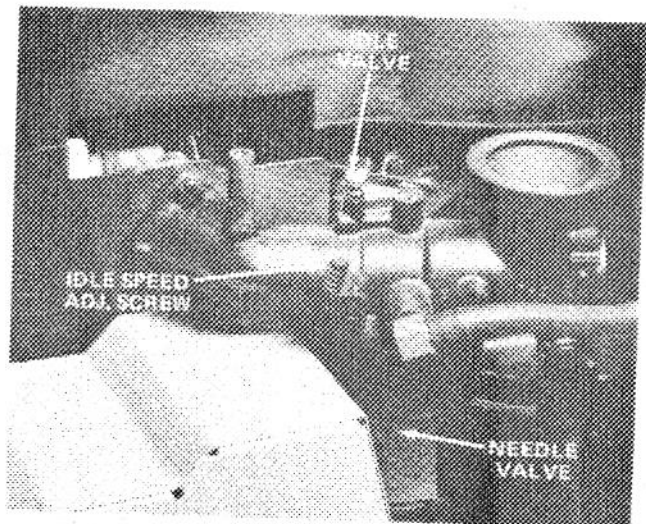

Figure 28
1. Needle Valve (Fig. 28) — Close valve by gently rotating it clockwise.
2. Rotate — open — the needle valve 2 turns counterclockwise (Fig. 28).
4. Rotate needle valve (Fig. 28) clockwise, 1/8 turn at a time, until engine starts to lose speed. Let engine react to each 1/8 turn setting.
5. Rotate needle valve (Fig. 28) counterclockwise — out — 1/8 turn at a time, until engine first runs rough. Let engine react to each 1/8 turn setting.
6. Rotate needle valve (Fig. 28) clockwise — in — very slowly until engine starts to run smoothly. This setting, under no load, may be slightly rich; however, the slightly rich setting will assure proper operation when engine is under load.